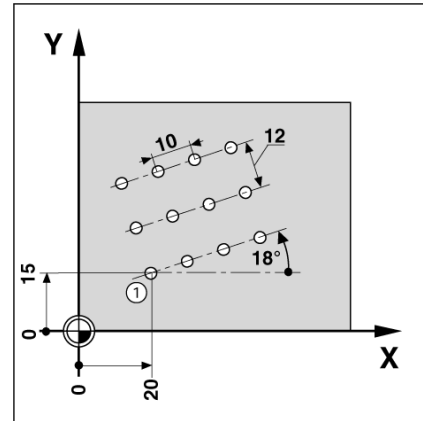

Fig. I.48 Linear Pattern Example
**Example: Enter data and execute a linear pattern. See Fig. I.48, Fig. I.49 & Fig. I.50.**